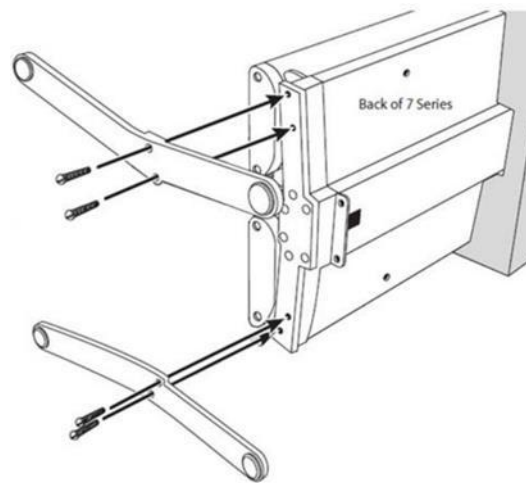

Figure 11 Feet Installation
5. The screws to attach the feet are pre-inserted in the bottom of the unit at the factory. Remove them, then position the first foot so that its “longer” side is toward the front. Mount it using the screws that you removed from the bottom of the device, see Figure 11 Feet Installation. Repeat the process for the second foot.